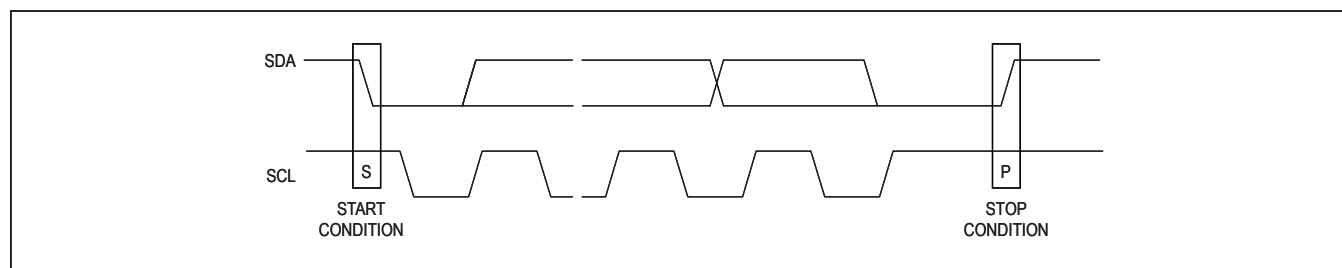
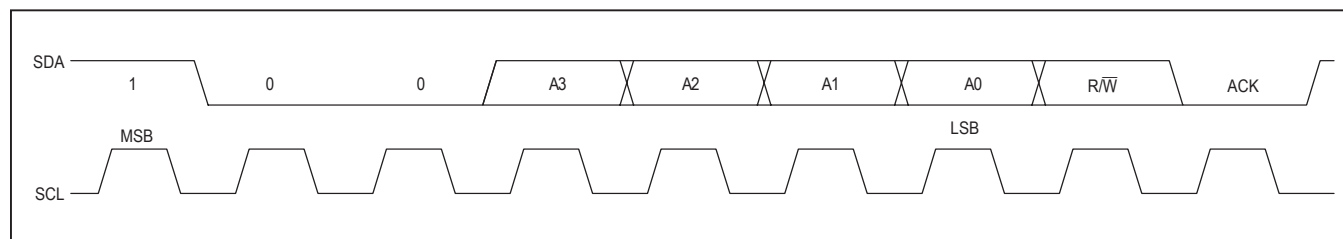

Figure 3. Standard Stop Conditions
Figure 6. Slave Address
Each transmission consists of a START condition (Figure 3) sent by a master, followed by the MAX6956 7-bit slave address plus  $R/\overline{W}$  bit (Figure 6), a register address byte, one or more data bytes, and finally a STOP condition (Figure 3).
finished communicating with the slave, it issues a STOP (P) condition by transitioning SDA from low to high while SCL is high. The bus is then free for another transmission (Figure 3).
The MAX6956 has a 7-bit-long slave address (Figure 6). The eighth bit following the 7-bit slave address is the  $R/\overline{W}$  bit. It is low for a write command, high for a read command.